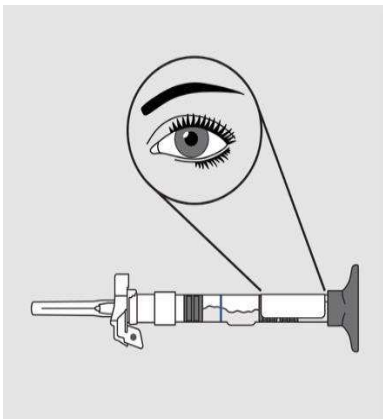

Figure 3: Inspect Syringe
4. Inspect the syringe for any damage. (Figure 3)